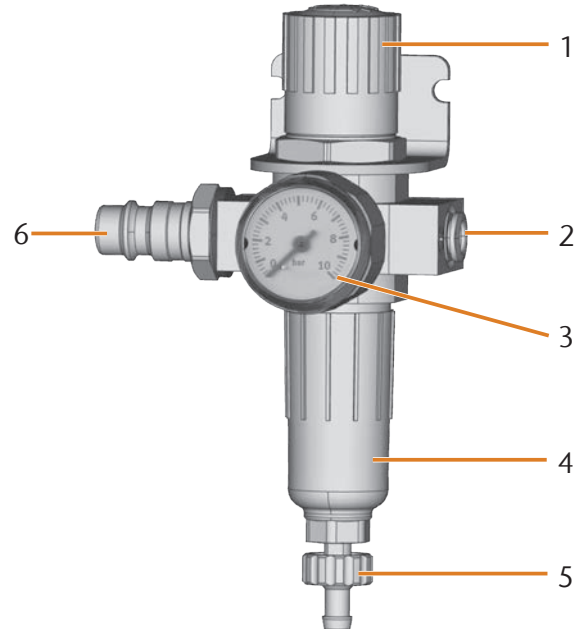

FIG. 5: THE SERVICE UNIT: REGULATING AND CHECKING THE AIR PRESSURE
- Mount the service unit in an upright position (↕ Fig. 5).